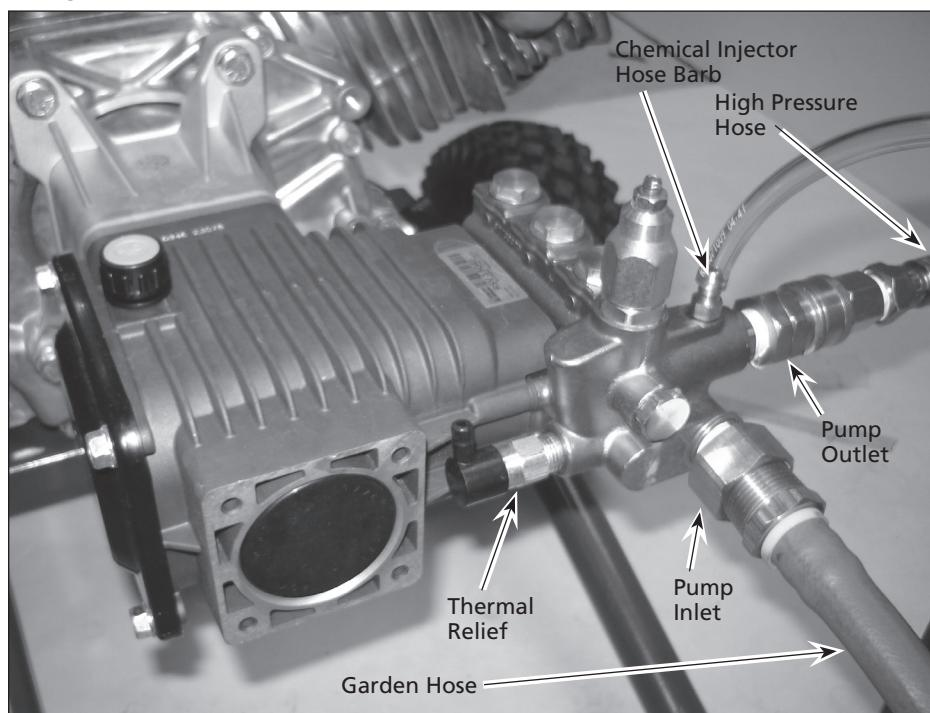

Figure 4 - Pump hook up
5. Connect the high pressure hose to the pump outlet (See Figures 4 and 5).
4. Secure garden hose (not included) to the inlet connection on pump (See Figure 4).